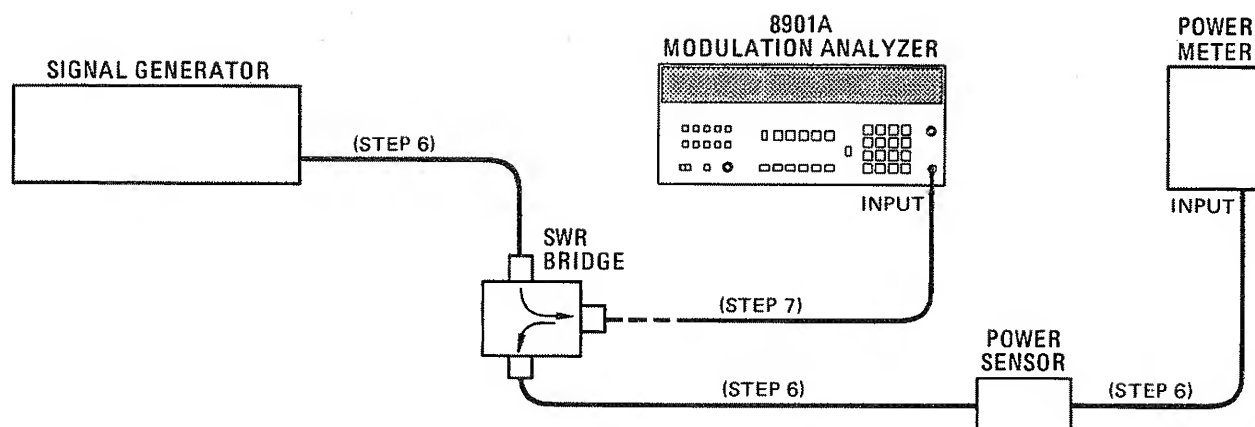

Figure 4-8. SWR Performance Test Setup
6. Connect the equipment as shown in figure 4-8.